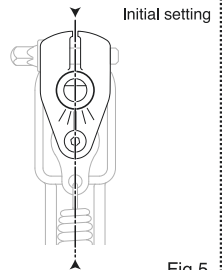

Fig.5
- The Accelerator Sleeve and Unilock Beater Angle Cam feature guide marks to reference all changes made. To return to the factory default setting, set the centerline/mark of the Unilock Beater Cam to the line/mark of the Accelerator Sleeve (Fig.5).